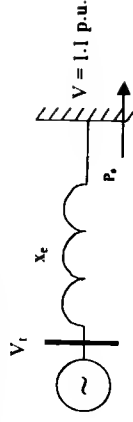

Fig. 1
4. A salient-pole synchronous generator is connected to an infinite bus through an external reactance $x_e = 0.2 \text{ p.u.}$ (Fig. 1). The synchronous reactances are $x_d = 1.4 \text{ p.u.}$ and